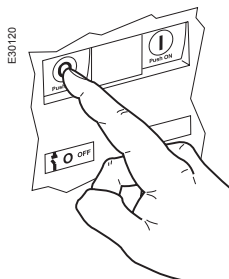

Fig. 1
- Press the OFF button. The OFF indication is displayed (see Fig. 1).